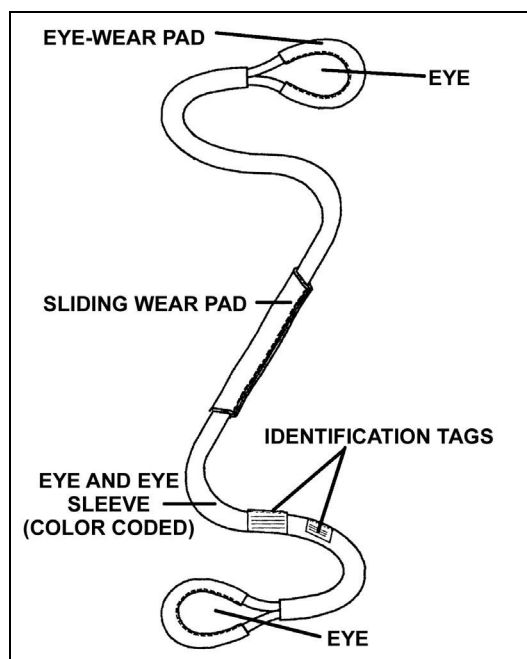

Figure 5-6. Polyester roundslings.
e. **Polyester Roundslings.** Use polyester roundslings as the primary vertical pendant (Figure 5-6, page 5-8). You can use the three hitches described in Chapter 6 to attach roundslings to the load. The lifting capacity of polyester roundslings varies with the size of the sling and the type of hitch used to attach the load. Each sling has two identification tags permanently sewn to the eye and eye sleeve. These identify the size and capacity of the roundslings as well as other information needed for its safe use. Roundslings are also color-coded by size. Table 5-2 (page 5-8) lists roundslings lengths and lift capacities.